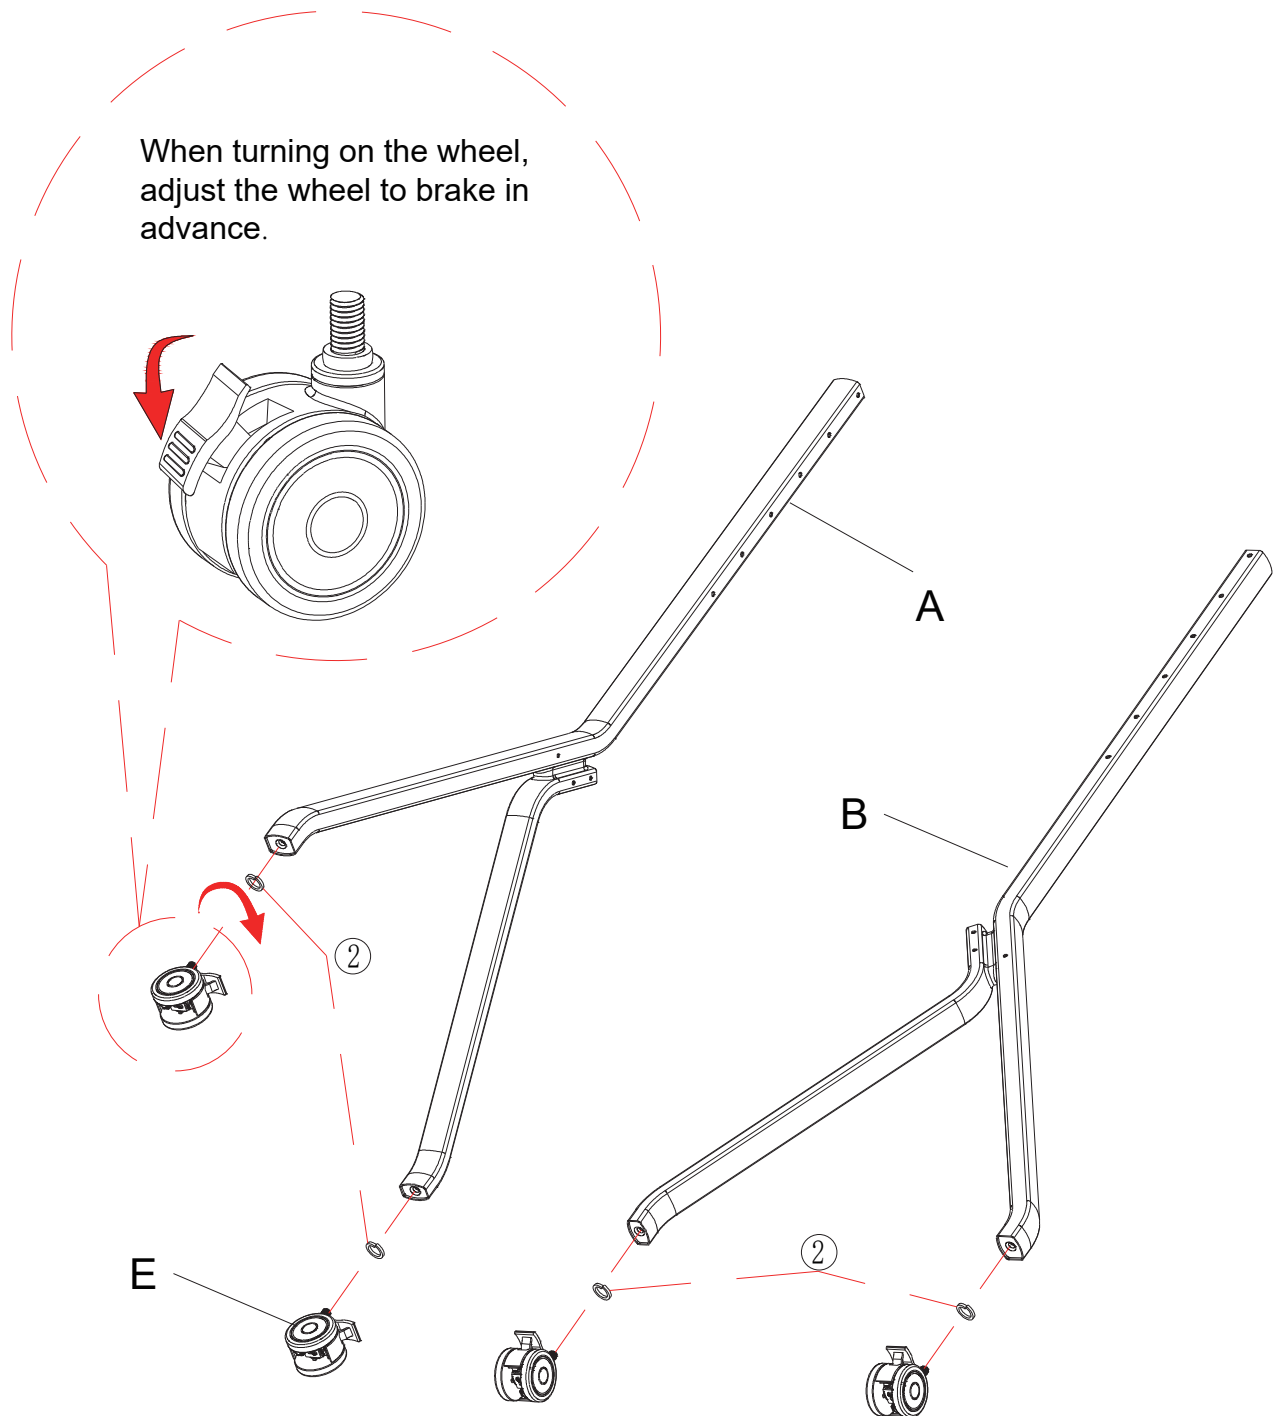

FIG 1
Step 1: Adjust the wheel to the brake position and screw it into the leg.(Refer to figure 1) :